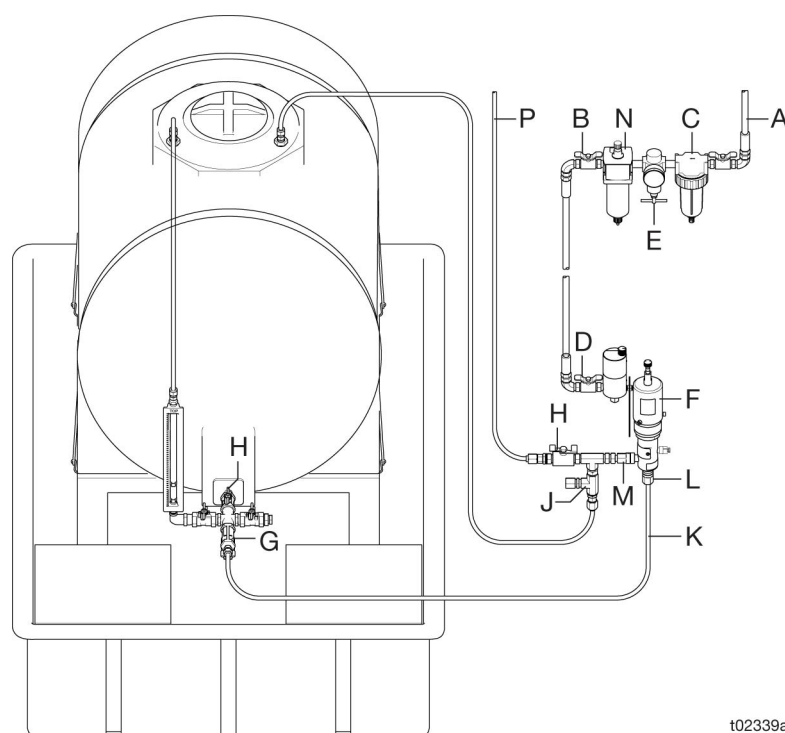

FIG. 2: Typical Installation
FIG. 2 is an example of an installation with a Python chemical injection pump. Your installation may differ from what is shown here. (See **Required Accessories**, page 10.) The Python pump (F) is the only component in FIG. 2 supplied by Graco. All other components are supplied by customer.
Install the following required accessories in the order shown in FIG. 2, using adapters as necessary. See **Python Timing Valve Assembly** starting on page 36.
If the application, or mounting configuration, requires installation in a manner different than depicted in FIG. 2, please contact your Graco distributor for assistance.